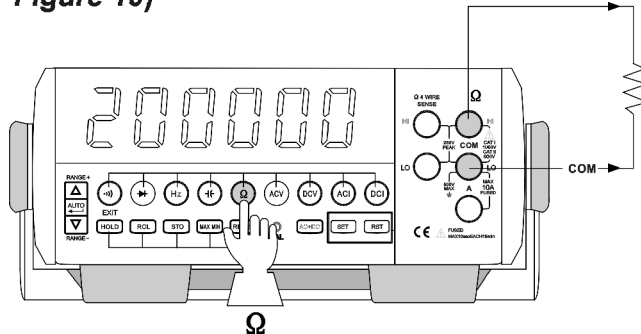
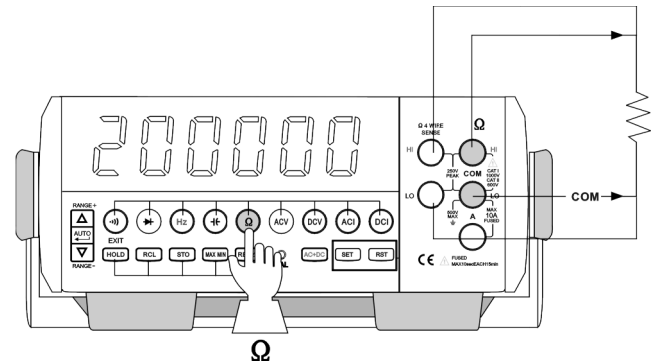

Figure 9
Figure 10
### 4. Resistance measurement (See Figure 9 and Figure 10)
1) The Figure 9 shows the Two-end resistance measuring method, with the resistance to be entered from the front panel. At this time, insert the red pen-shape meter into “V Ω Hz →” input port and the black pen-shape meter into “COM” input port;
4) The Figure 10 shows the four-end resistance measuring method. At this time, it should use two pairs of pen-shape